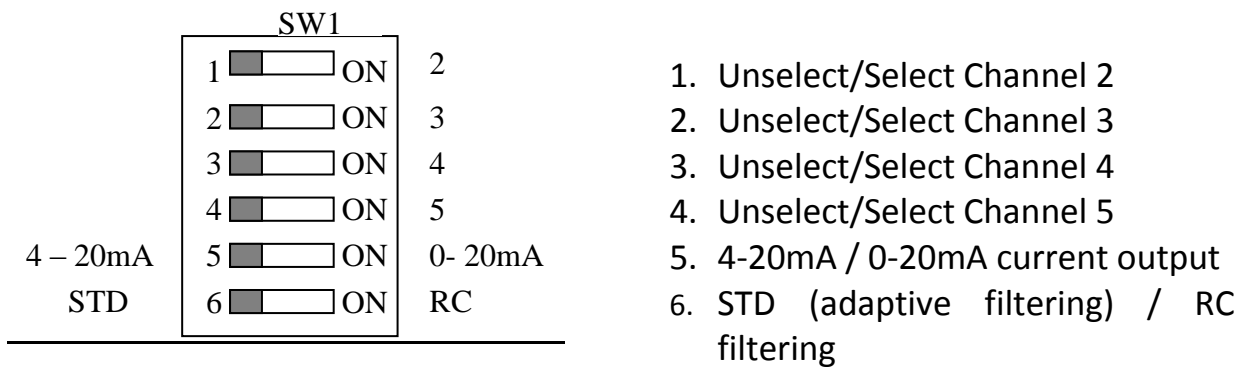

Figure 4 Bit switch Settings (item 4 on **Figure 3**)
The Gascard NG has a number of bit switches which enable the user to control various aspects of the sensor's behaviour. Bit switch 6 (see item 4 on Figure 3 and Figure 4) is used to change the output filtering between the standard adaptive type filter and a simple RC Filter. The value of the RC filter is factory set to 8 seconds by default but this may be altered by the user through the RS232 port (see RS232 port user manual).
The Gascard NG provides a standard optimised response time (T_{90}) of 10 seconds with the bit-switch 6 (see Figure 4) on position "STD". Alternatively an RC type response can be selected by setting bit-switch 6 to position "RC". The time constant of the RC filter is programmed using an internal variable and may be set and viewed using the RS232 port and terminal software (see Procedures for RS232 communication with the Gascard NG). Smaller time constants produce more rapid response but reduced short term stability (i.e. a noisier output).